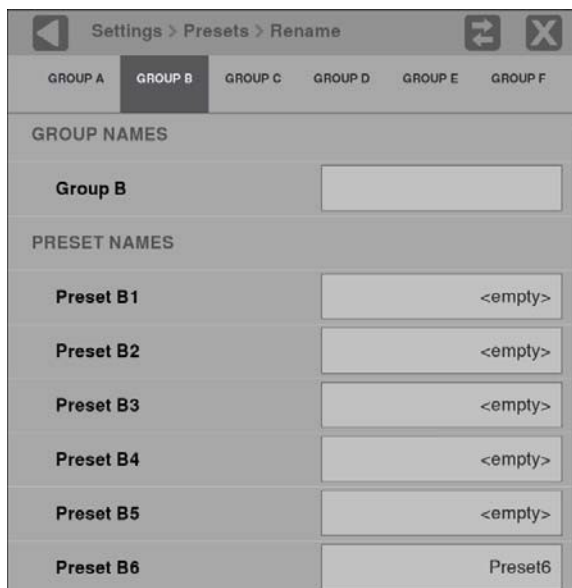

Figure 72: Presets Rename submenu
- c. Select **Rename** to open the Presets Rename submenu shown in Figure 72.